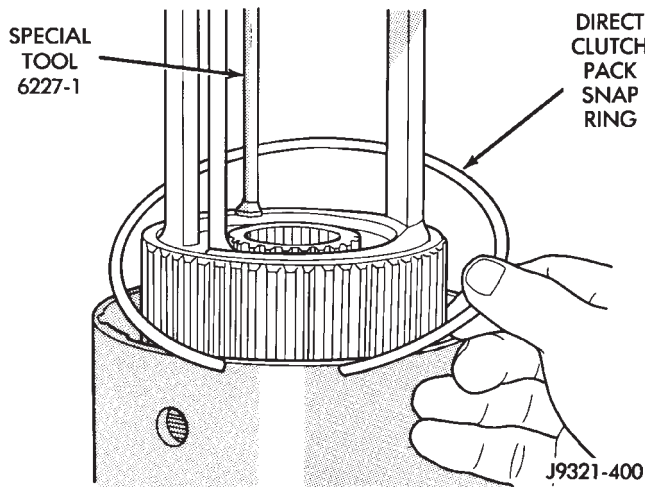

Fig. 296 Direct Clutch Pack Snap Ring Installation
(28) Install direct clutch pack snap ring (Fig. 296). **Be very sure snap ring is fully seated in clutch drum ring groove.**